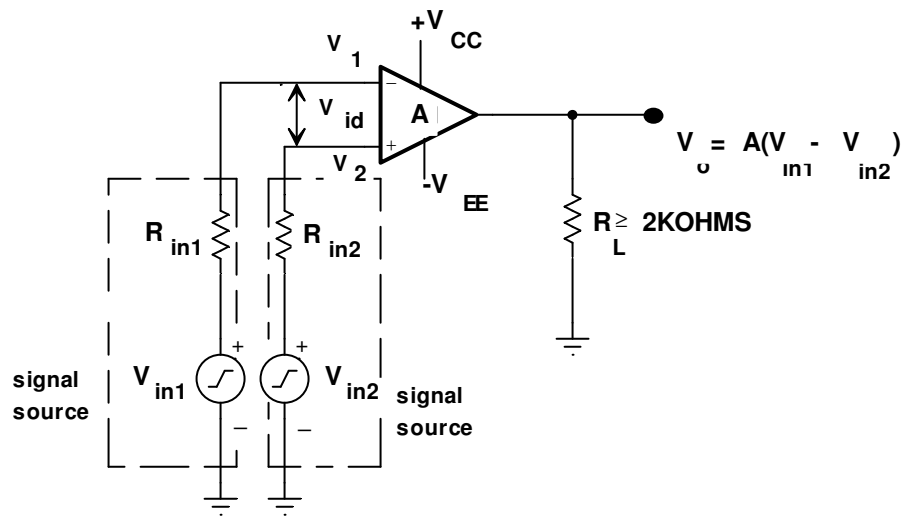

Fig. 36.4
**Q36.(iii)** Fig.36.4 shows the open-loop differential amplifier in which input signal  $V_{in1}$  and  $V_{in2}$  are applied to the positive and negative input terminals. Since the op-amp amplifies the difference between the two input signals, this configuration is called the differential amplifier.